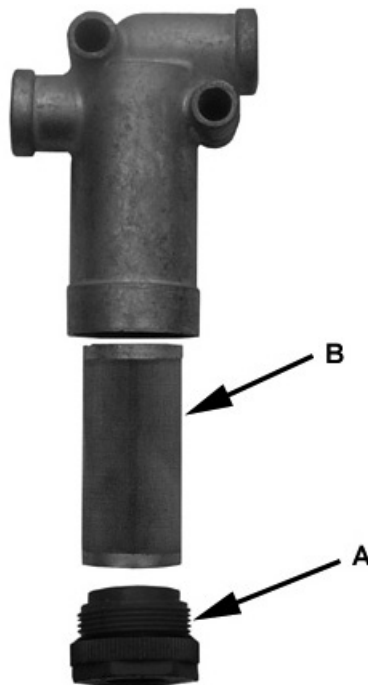

Figure 8-8 Air In-Line Filter
Your trailer is equipped with air inline filters. Filters are mounted on the inside of the frame rail. Every six months, relieve the air pressure in the trailer air tanks and remove the cap (A) and filter screen (B). See figure 8-8. Clean and install filter screen and cap.